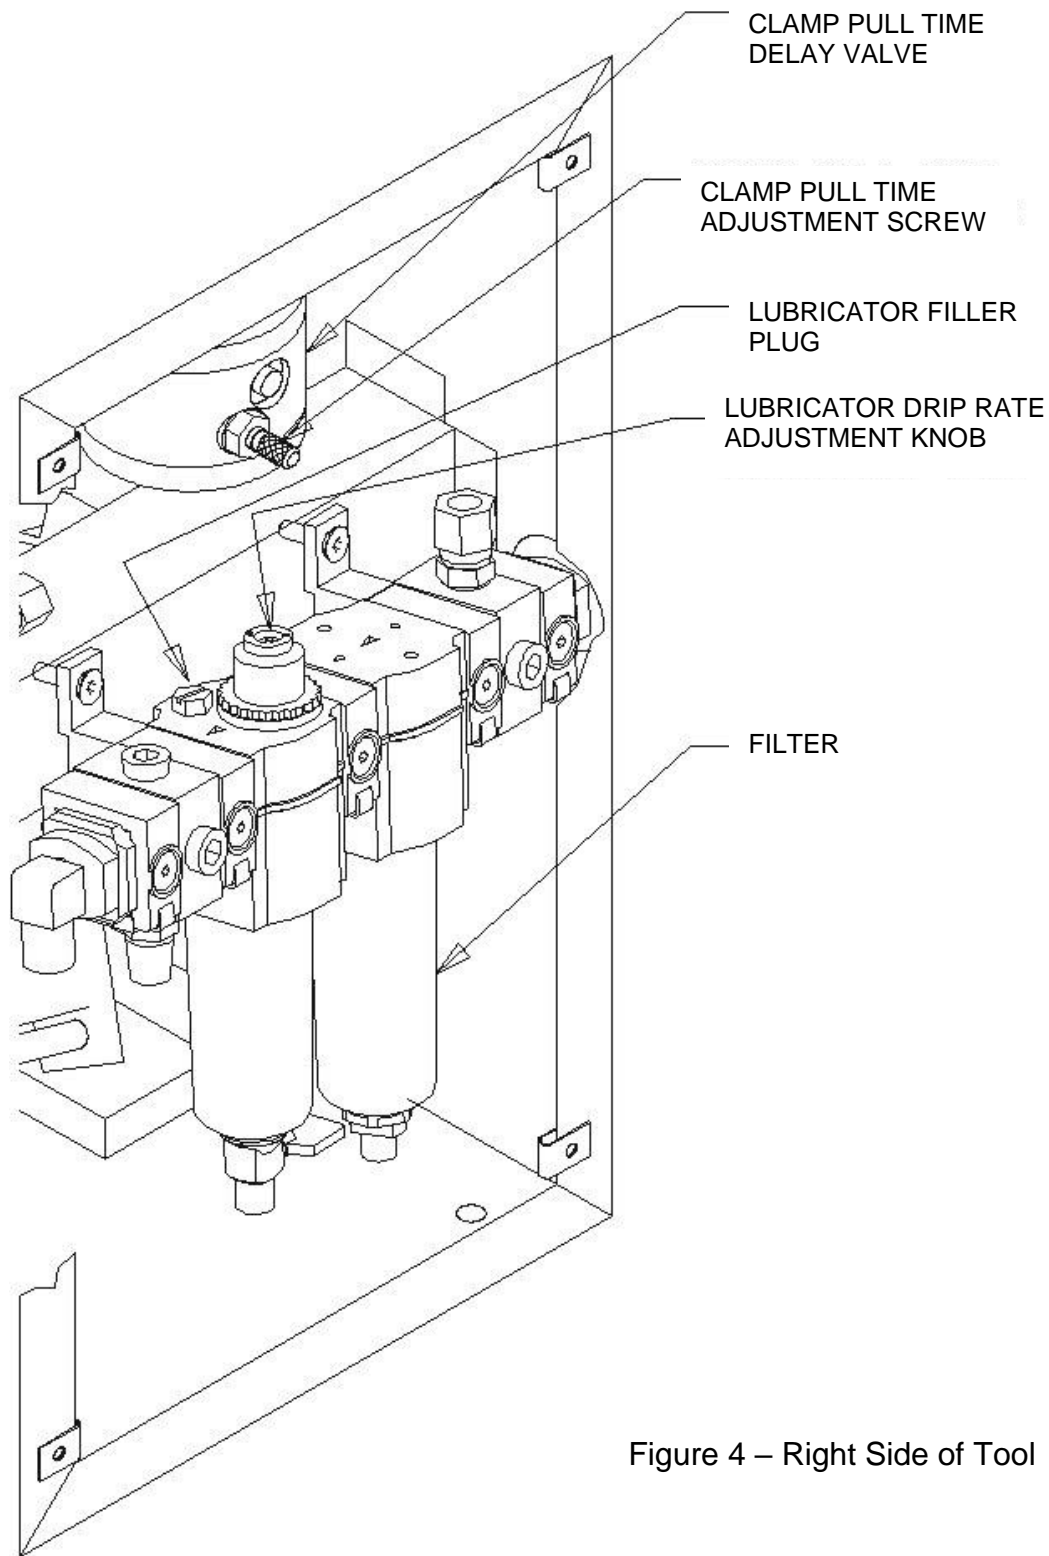

Figure 4 – Right Side of Tool
4. Remove the filler plug of the lubricator, see figure 4, and fill the bowl to the fill line with the DTE 24 hydraulic oil supplied with the tool. Note: The lubricator cannot be filled while tool is pressurized.
The lubricator adjustment must be checked to determine that the drip rate is one drip every 5-15 cycles (set and locked at Band-It, does not need to be adjusted). Locate the drop rate adjustment knob on the top of the lubricator (Fig. 4). The drip rate adjustment should be made only when there is a constant flow of air through the lubricator (operate the tool).
This is the time needed to allow the pull cylinder to tighten the clamp and to build air pressure to the pressure level selected. Pulling clamps with less than 40 psi does not require as much time to tension the clamp so, if desired, the tool cycle time can be shortened. Conversely, if the tool is used for clamps requiring pull pressure of 40 psi, or greater, the cycle time will need to be longer. To adjust this time, remove the right side panel (4 screws) and locate the time delay valve (Fig. 4). Locate the knurled adjustment knob (secured with a lock nut). Loosen the lock nut with a wrench and turn the screw clockwise (right hand) to increase the cycle time, turn the screw counter-clockwise (left hand) to decrease the cycle time. After an adjustment, it is recommended to cycle the tool a few times to check the time to which the tool has been reset. When satisfied with the time, tighten the lock nut to secure the adjustment knob and reassemble the side panel. A reasonable elapsed time for this portion of the cycle is three seconds.